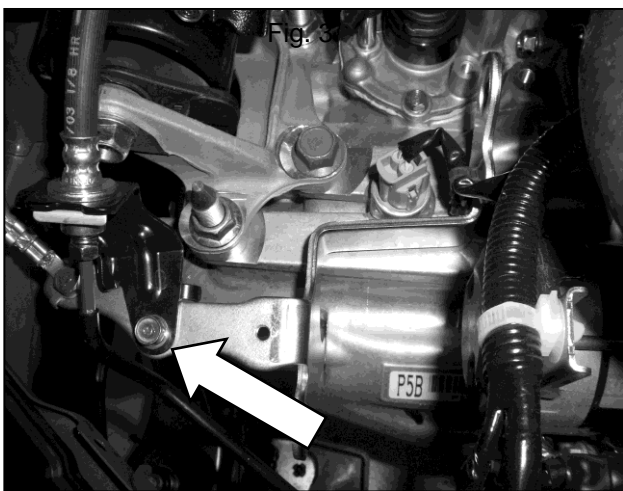

Fig. 5
- f. Remove the bolts securing the clutch line bracket to the transmission bracket. **(Fig 5)**